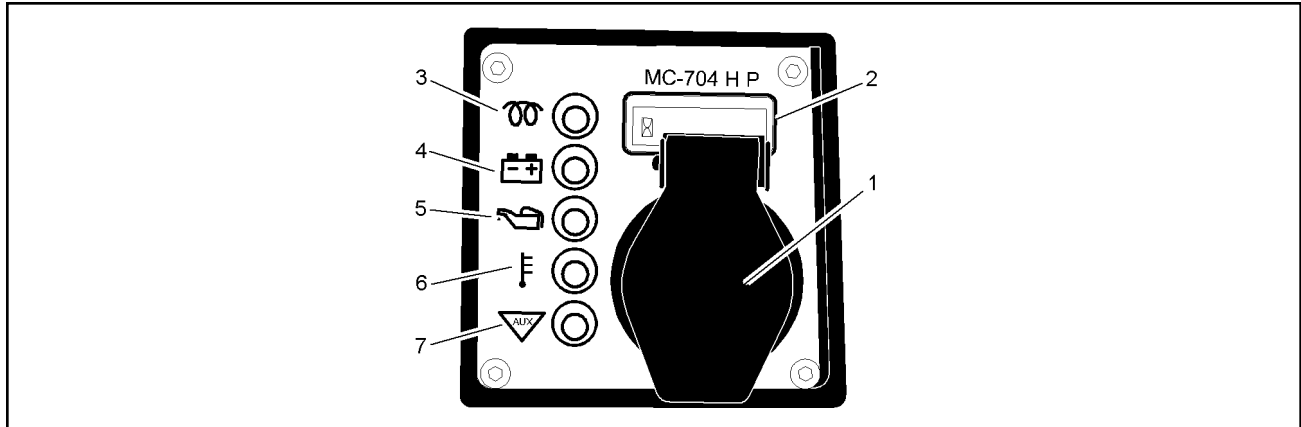

FIGURE 3-2. IGNITION SWITCH PANEL
4. Place ignition switch in the GP (glow plug) position until the GP light (Figure 3-2, item 3) stops flashing.
7. Check indicator and gauge operation. All indicator lights (Figure 3-2) should be OFF.